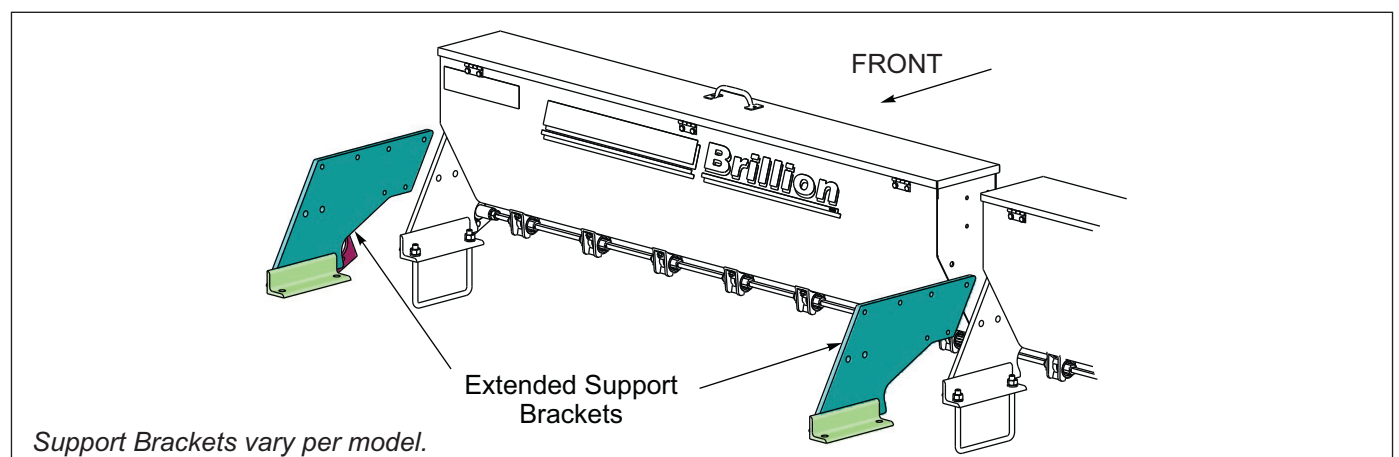

Figure 2-53: Extended Supports
9. Remove the Center and RH Seed Box Support Brackets. **See Figure 2-53.** Assemble the Center Extended Support Bracket between the front LH and RH Seed Boxes and the RH Extended Support Bracket on the end of the front RH Seed Box with 3/8-16 x 1-1/2 Bolts, Lock Washers and Nuts. **Do Not** tighten at this time.